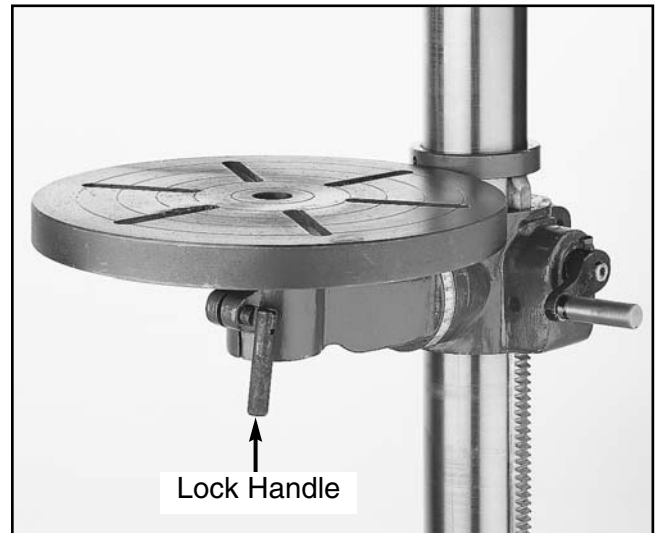

Figure 16.
3. To rotate the table, loosen the table lock handle, rotate the table to the desired position and tighten the table lock handle. **Figure 16.**